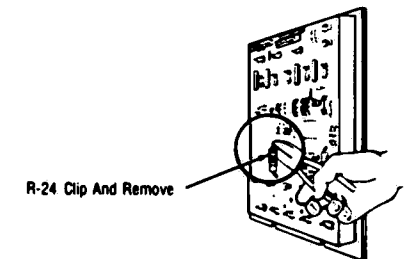

Figure 7-7. CLIP AND REMOVE R-24.
- b. If the entire primary control is to be replaced, replacement control (Fig. 8-10, 24) must be modified for use in Vacumatic sterilizer. Do this by clipping and removing R-24, as shown in Figure 7-7.